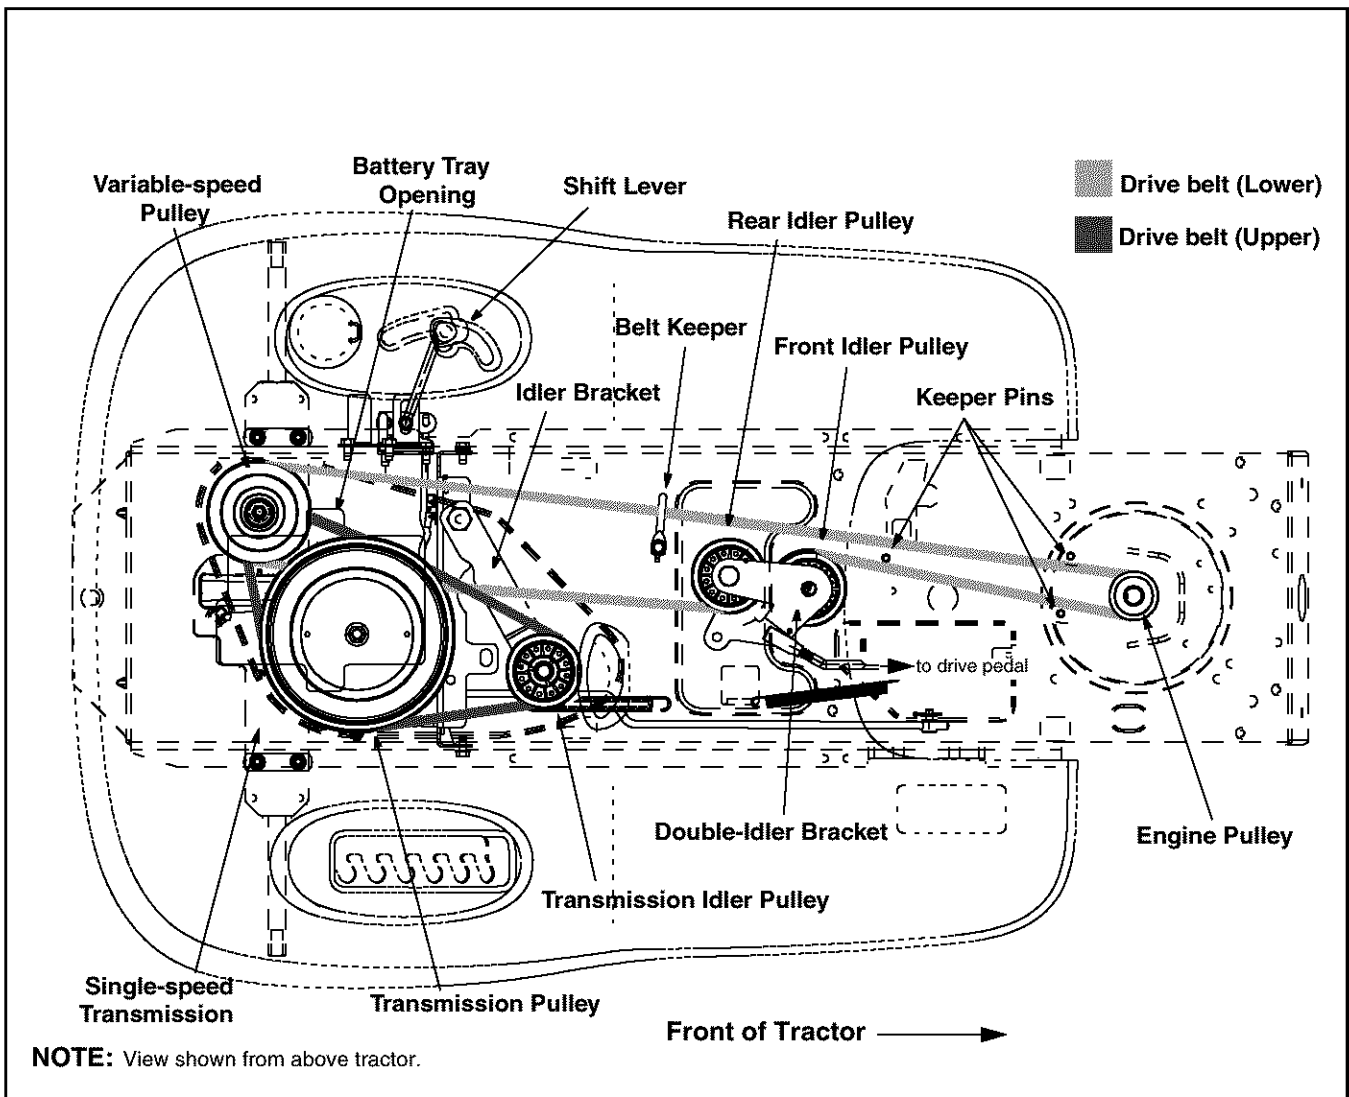

Figure 15
- Locate the transmission idler pulley on the upper drive belt by looking through the battery tray opening. See Figure 15.
- Reroute the new upper drive belt as shown in Figure 15.
- Locate the variable-speed pulley through the battery tray opening. See Figure 15.
- Remove the rear idler pulley from the double-idler bracket while unrouting the belt from around both the rear and the front idler pulley. Refer to Figure 15.
- Remove the drive belt by feeding it from both ends toward the front idler pulley on the double-idler bracket. See Figure 15.
- Reroute the new belt around the pulleys, belt keepers and keeper pins EXACTLY as the old one was routed. Refer to Figure 15.